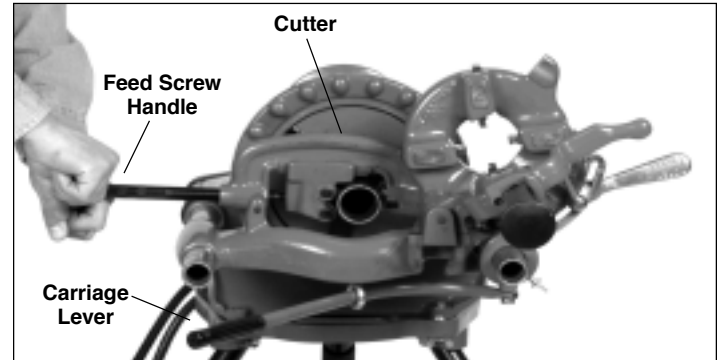

Figure 8 - Cutting pipe with cutter
2. Move pipe cutter down onto pipe and move carriage with carriage lever to line up cutter wheel with mark on pipe (Figure 8).